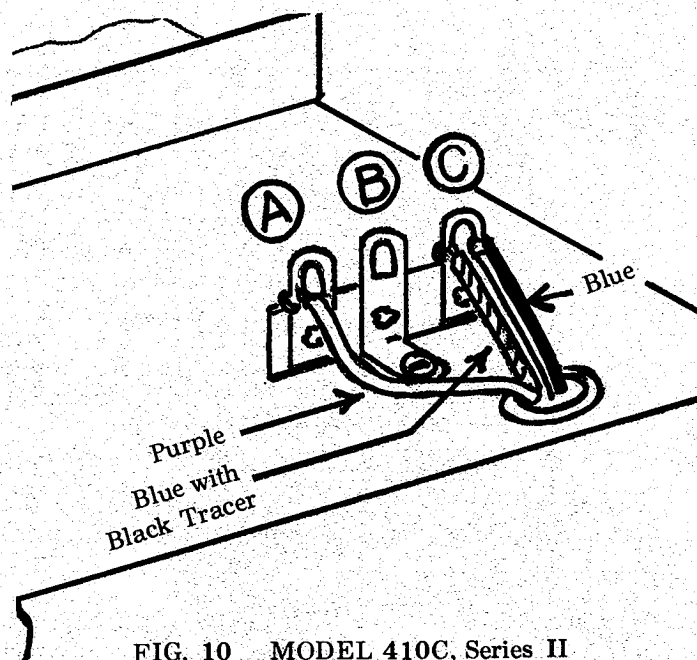

FIG. 10 MODEL 410C, Series II
- Remove cabinet from 410C and locate 3 lug terminal strip on top of the chassis. See drawing for terminal location. Drawing shown in Series II configuration, FIG. 10.